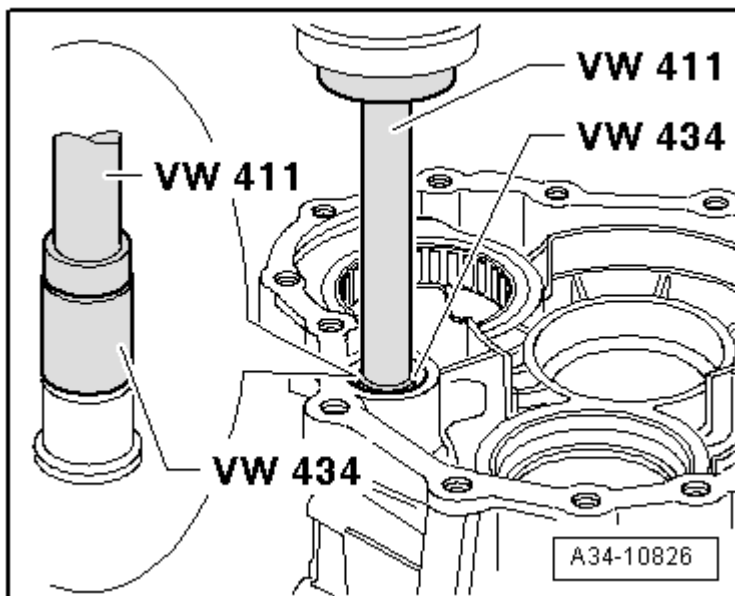

Fig. 69: Removing Bearing Bushing For 3Rd And 4Th Gear Gearshift Rail / From Transmission Cover
- Removing, refer to **Fig. 69**